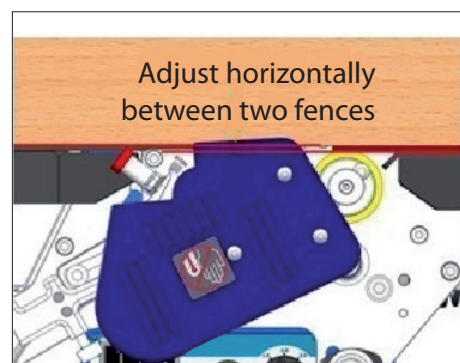

Fig 3
- Make sure the room between front and back fence can fit the tap and two fences are horizontal (Fig 3).